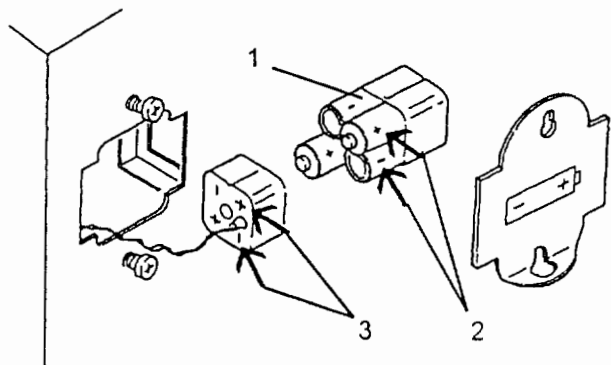

Figure 4-3 — Installing the Batteries
- e. Install the batteries (1) taking care to orientate the battery + and - terminals (2) according to the marks (3) on the battery cover (Fig 4-3).